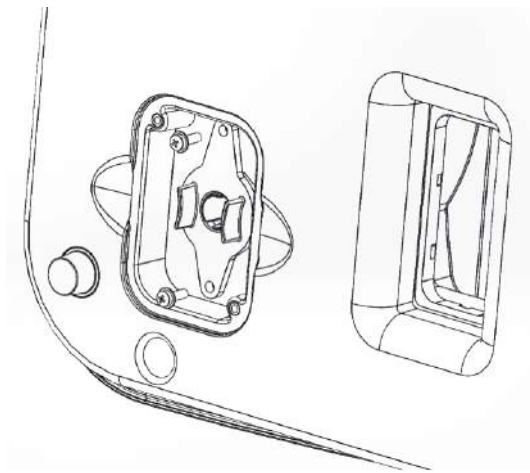

Fig. 1
3. Remove the two fixing screws and washers which retain the lamp assembly (Fig 1).